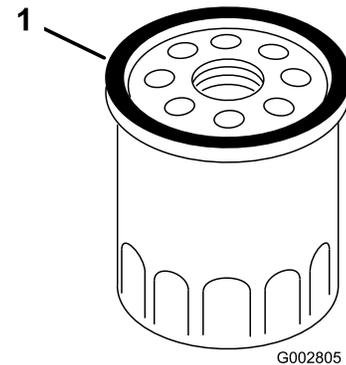

Figure 34
1. Apply a coat of the specified oil onto the gasket of the new oil filter (Figure 34); refer to Engine Oil Specification \(page 24\).